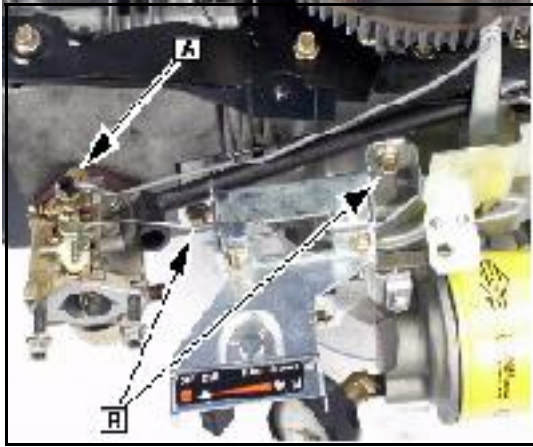

Fig. 12
12. Remove governor link ([A] Fig. 12) from carburetor by pulling up on link.
13. Remove governor bracket mounting screws that are shown in ([B] Fig. 12).
3. Slip choke link through control bracket and install bracket (Refer back to Fig. 12).